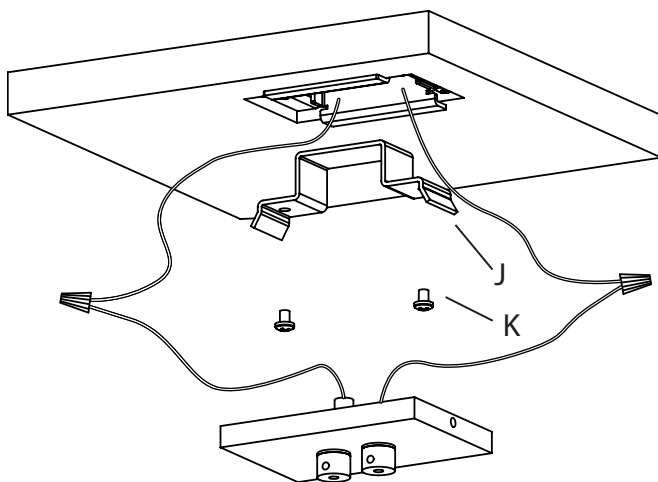

Fig. 5
14. Make appropriate electrical connections using wire nuts: Connect one of the black Power Feed wires to one of the transformer output wires. Connect the other black Power Feed wire to the second transformer output wire. Carefully place connections in the Minibox. (Fig. 5)
15. Attach mounting bracket (J) to Minibox with two mounting screws (K). (Fig. 5)